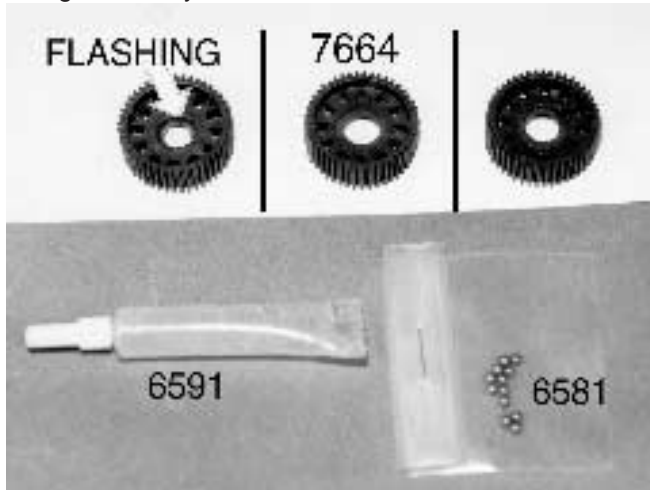

Fig. 43
□ **Fig. 43 (1)** Open the Stealth transmission bag; inside you will find bags marked A, B, C, D, E & F. You will also find a gear cover bag, the motor plate and a couple of small tubes of lube. **(2)** Go ahead and locate bag A, the diff assembly. **(3)** From bag A you will want to remove the #7664 diff gear and the small bag containing the twelve #6581 3/32" carbide diff balls (these are the larger of the two ball sizes). These carbide balls are the best available. They will outlast the diff drive rings at least ten times (if the diff is kept clean and lubed).